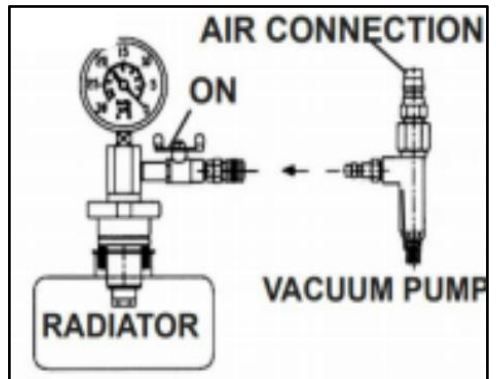

FIG.2
3.4 Open the valve (Fig.2) and turn on the air supply.